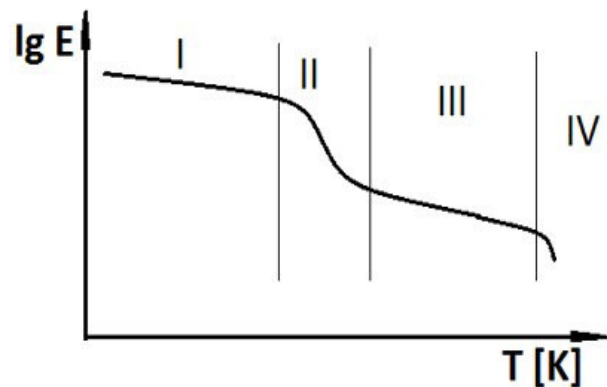

Figure 11. Schematic temperature dependence of Young's modulus for an amorphous thermoplastic material © Anders Persson, University of Borås
Thermoplastic polymers, as their name indicates, are highly sensitive to temperature and go through a number of stages as illustrated in figure 11. At low temperature, indicated by I in the figure, is the glassy state, II – the transition zone with T_g at the inflection point, III – the rubbery plateau and finally IV – the viscous zone. Each material has its characteristic figure 11-type curve and there are also structural and morphological factors that alter its appearance. Higher molar mass extends zone III to higher T . The drop of E in the transition zone, which for an amorphous polymeric material is about 1000 times, is less and less pronounced with increasing degree of crystallinity. A similar pattern is seen with increasing degree of cross-linking.
The pattern seen in Figure 11 may actually also be attained by exchanging the temperature for loading time. This is a manifestation of viscoelasticity and is based on the fact that deformation depends upon conformational rearrangements and with time the likelihood that the polymers will move in a way that releases stress. Accordingly harmonic loads of different frequencies will follow a similar pattern since frequency is reciprocal time, i.e. low frequency is equivalent to long loading time.
A polymeric material that has reached the viscous state, zone IV in Figure 11 has lost its mechanical integrity and is now considered a fluid with mainly viscous behaviour. The Kelvin-Voigt and Maxwell models are still valid but with significantly shorter relaxation times than in the solid state. Hence it is more relevant to use a purely viscous fluid as a starting point, i.e. a model with only a dash-pot and also to emphasise shear flow rather than tensile. The stress-deformation behaviour depends on the shear rate, $d\gamma/dt$, a fluid experiences in accordance with equation (10).